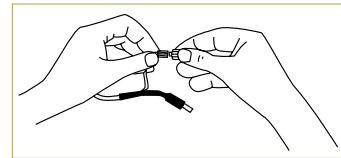

Figure B-5: Remove pipettor lead cover by twisting counterclockwise
1. At the end of the pipettor plastic tubing, remove the cover from the transparent syringe connector by twisting counterclockwise (Figure B-5).